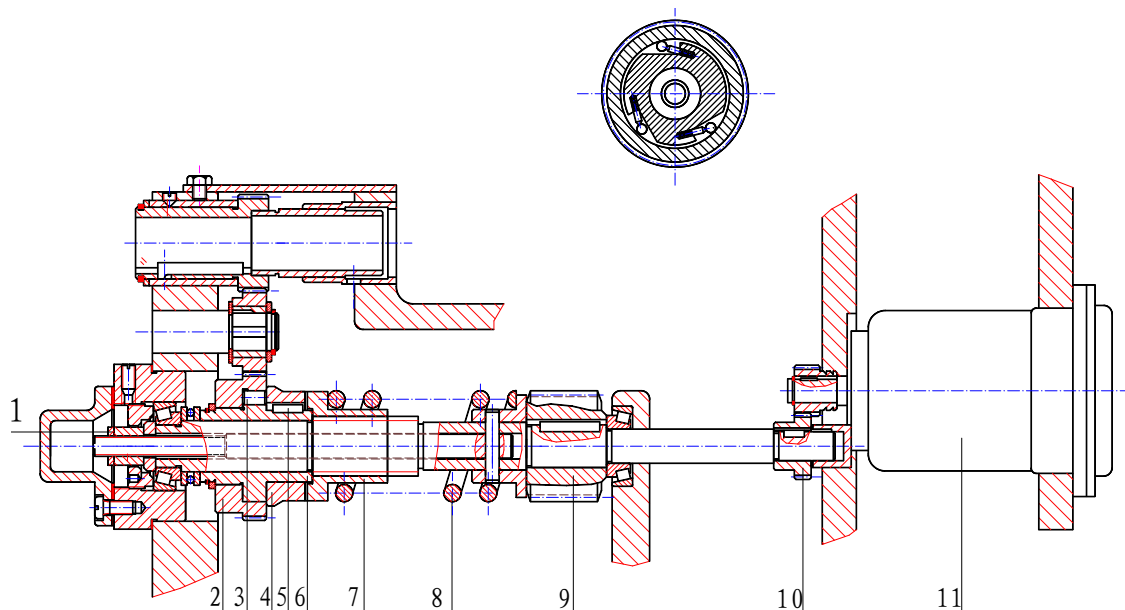

Fig. 19 Structure of overload safety clutch and single direction over-clutch
The overload safety clutch is mounted in the apron of the machine, it can guarantee safe working through the coupling of overload safety clutch compressing spring to make the cam slipping when sudden changing with load appears or some trouble occurs during the period of automatic feed of the machine. Therefore, to guarantee the efficient work of the overload safety clutch, it is necessary to adjust the pressure of the spring. A power to move the apron is transmitted to the coupler of overload safety clutch by the gear (2) (Fig. 19) through the roller 3 to transmit overrunning clutch (5) and through the flat key (6) transmitted to the coupler of overload safety clutch and transmitted to the coupler, compressed by the spring (8) through coupler 4. When turning-resisting force is too great, having more torque force, the spring (8) is pressed by the coupler (7) with compressing to make the cam unengaged. If the safety clutch is too loose, adjust nut (1) to make a tension of the spring (8) rise until proper tension is obtained.
In order to guarantee that normal feed movement can be cut-off when switching on the rapid motor of the machine and that the mechanism can safely run, the front end of the safety clutch of apron is provided with an over-clutch with single direction. See Fig.19 Structure of overload safety clutch and single direction over-clutch of Chapter 7. Maintenance and Adjustment of the Machine. In normal feed case, power source from the feed rod does movement counter-clockwise through the gears set on the outer ring (2) of over-clutch with single direction and through the rollers (3) being wedgedly tightened to drive the inner ring (5) and to make the left cam (4) of safety clutch rotating, further, make the worm (9) driving the worm wheel feed mechanism rotating. After the rapid motor is started, the worm (9) rotates counter-clockwise through the sear (10). Because the inner ring (5) of the over-clutch with single direction rotates faster than the outer circle (2) of it in this time, the rollers (3) being wedgedly tightened is released to make the inner outer rings no relation with each other and them rotating separately. The power cannot be transmitted from the feed rod to realize protection to rapid speed. When the rapid motor stops the outer ring rotates faster than the inner ring, the rollers is wedgedly tightened again to recover normal feed action.